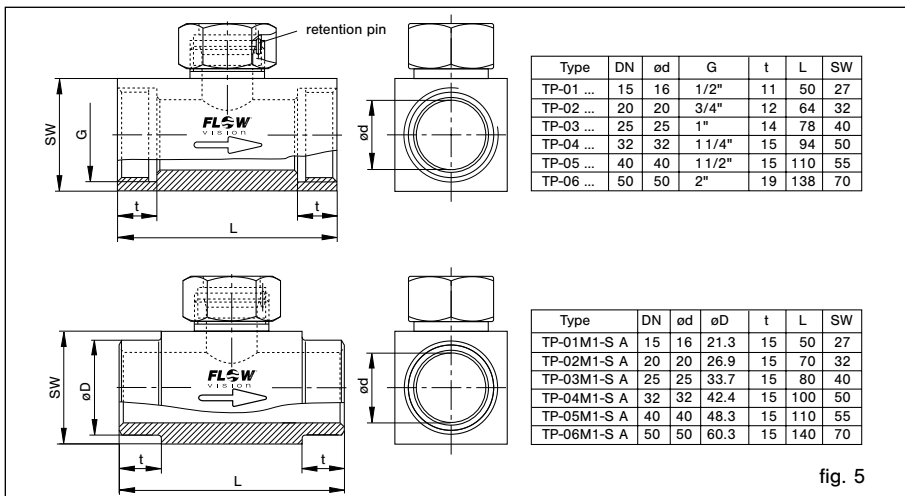

fig. 5
- Installation:** sensor adapter TP.. (fig. 5)